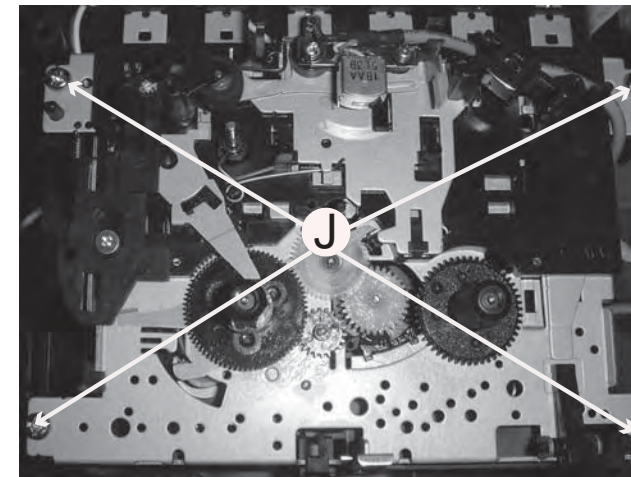

Figure 14
- 2) Loosen 4 screw " J " at tape deck as shown in figure 14.